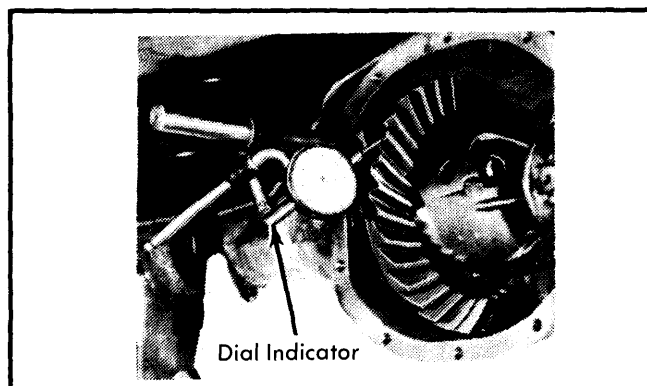

Fig. 5 Backlash & Bearing Preload Adjustment
2) Install a dial indicator as shown in Fig. 5. Tighten right nut until it first contacts bearing cup. Then preload bearings from .008-.012" case spread. Rotate pinion gear several times in each direction to seat bearings. Tighten differential bearing cap bolts.